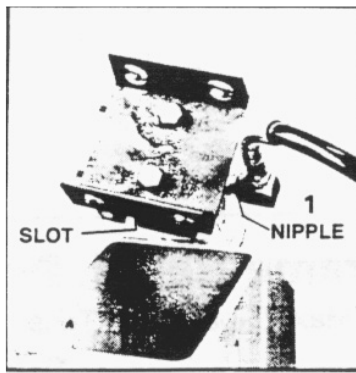

FIG. 2
**IMPORTANT:** The slot on the top plate must be positioned as shown in FIG. 2.
3. Attach the nipple (FIG. 2, Item 1) to the ram. Attach elbow to the nipple, positioning the elbow as shown.